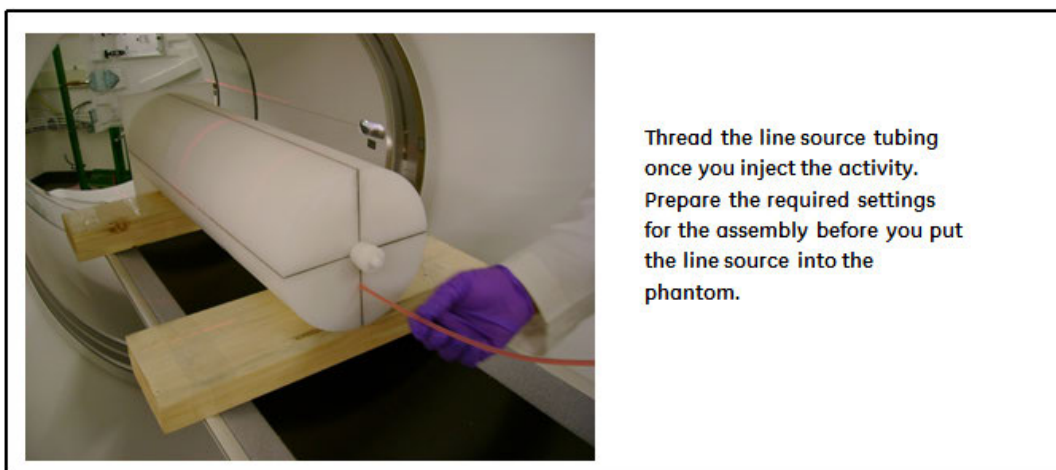

Figure 5.4: Thread the Line Source Tubing through the NEMA Phantom
17. Refer to Figure 5.4. Insert the line source into the phantom.